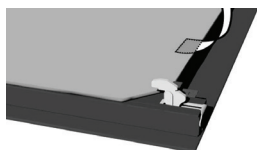

Figure 2
- Hold the door glass by the lower edge, slightly lift it so that it is no longer attached to the support, and remove it (Figure 2).